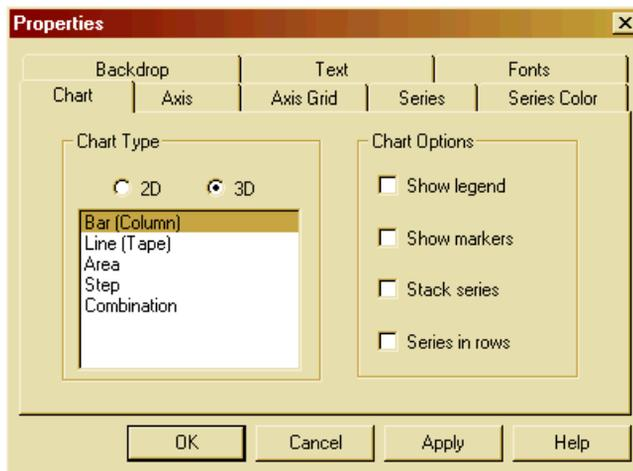

Figure 301. The Properties Dialog Box (showing MSChar20Lib.MSChart.2)
8. Properties dialog can be opened if available for an ActiveX, by clicking the **Properties** button, see Figure 301.